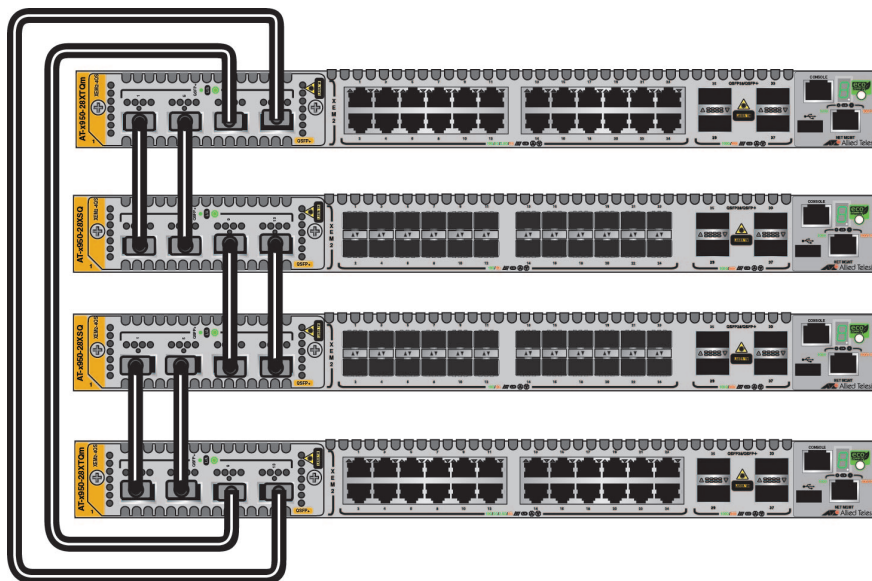

Figure 35. Example Trunk Using XEM2-4QS Line Cards
- ❑ Figure 35 on page 84 is an example of a stack of four switches with a trunk of ports on XEM2-4QS Line Cards.